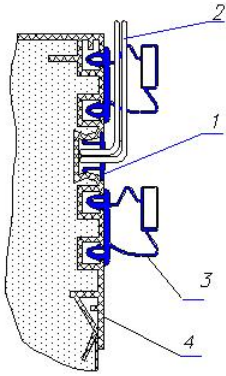
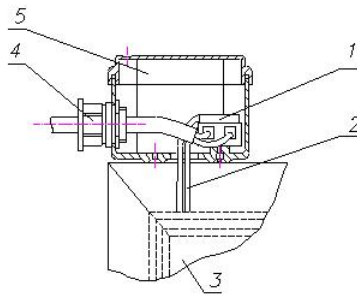
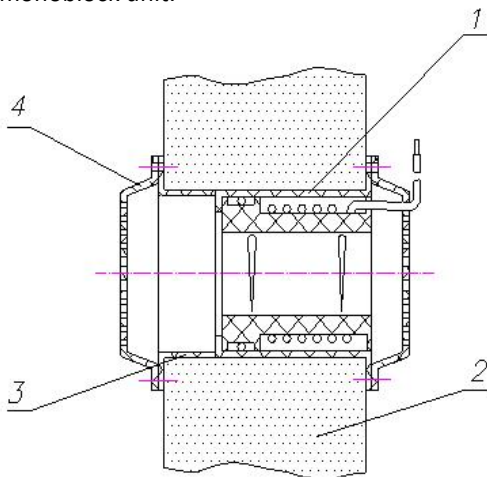

Fig.4 Door WEH Installation
Fig.5 Door WEH connection
Fig.6 Compensation valve installation
If necessary, the cold room is additionally sealed by a plastic sealant that is included in the set of delivery. When the KXH type rooms are installed, it is necessary to set a WEH (electric- heated wire) of a door (fig. 4, fig. 5) and a compensation valve (fig. 6) that are supplied at option.
- remove the profile, item.1 (Fig. 4), insert the WEH in the door profile slot (Item 4), lead the wires through the holes made in the profile, Item 1, and in the soft insert, Item 3, and connect these to the terminals of the junction box, Item 5 (Fig. 5).
When the compensation valve is installed, hole $\varnothing$ 65 mm should be drilled in the side panel. Perform the installation in compliance with Fig. 6. Never place the valve in the upper part of the panel opposite the monoblock unit.